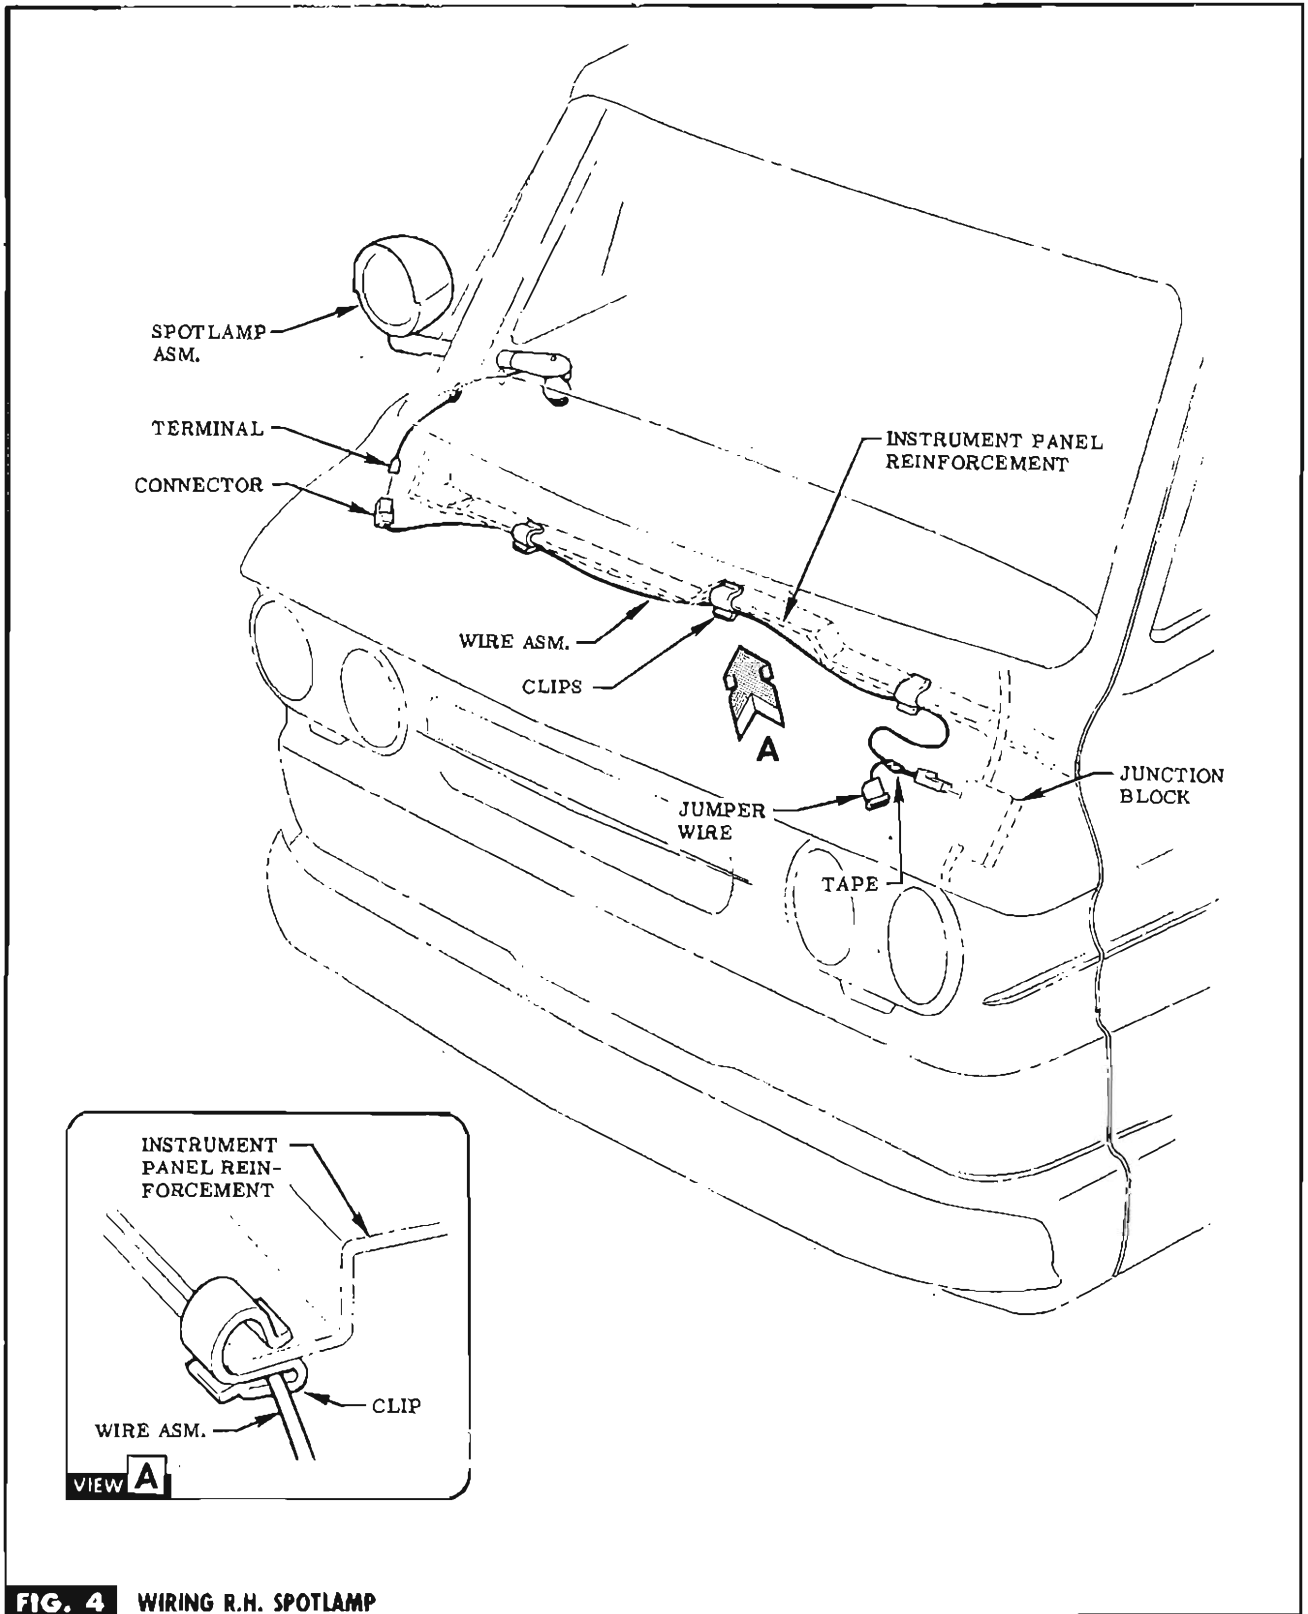

FIG. 4 WIRING R.H. SPOTLAMP
STEP 15 (R.H. SPOTLAMP) PLUG TERMINAL INTO CONNECTOR ON WIRE ASM. INSTALL CLIPS ON INSTRUMENT PANEL REINFORCEMENT AT CONVENIENT LOCATIONS. ROUTE WIRE ASM. THRU CLIPS. SEE FIG. 4 & VIEW A.